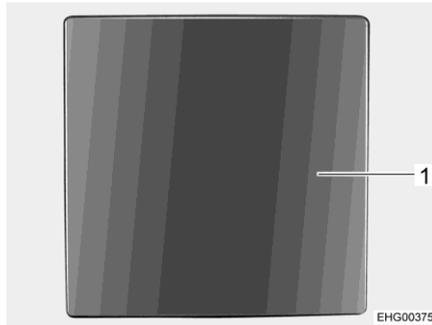

Fig. 60 Push button
- Push the push button (Fig. 60,1). The push button jumps out.